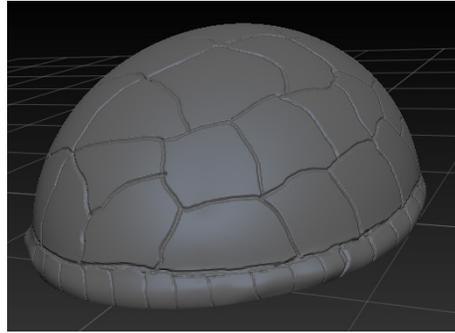

Figure 3-63 Pattern created on the entire lower part of the turtle shell
- Continue creating pattern on the lower part of the *turtle shell*, refer to Figure 3-63.